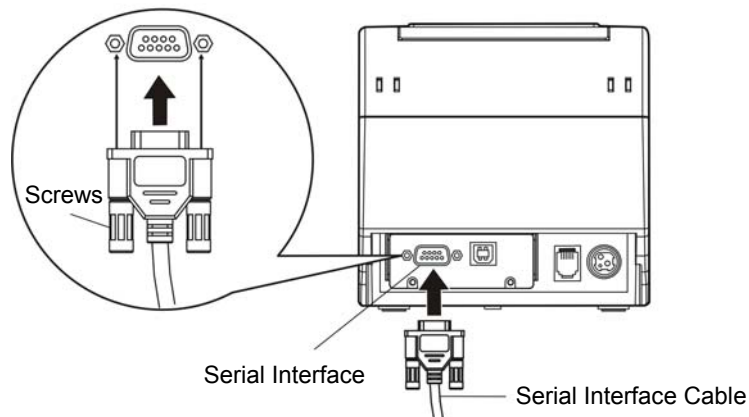

Figure 2-5 Connecting the serial interface cable
1. Make sure the computer and the printer are both turned off, connect the serial interface cable to the connector of the printer. Tighten the screws and make the cable fixed. As shown in Figure 2-5.